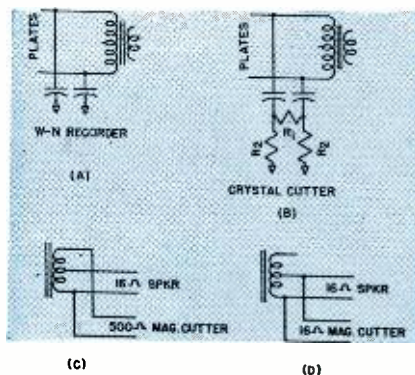

Fig. 7. Change in output wiring for feeding different types of recorders.
When desired for use with an ordinary crystal cutter, the wiring of the output circuit and the feed for the recorder should be modified as shown at (B) of Fig. 7. (C) and (D) show connections for 500-ohm and 16-ohm magnetic cutters respectively. The wiring of the complete output circuit for feeding the recorder is shown in Fig. 3, complete with VI and speaker circuit wiring.